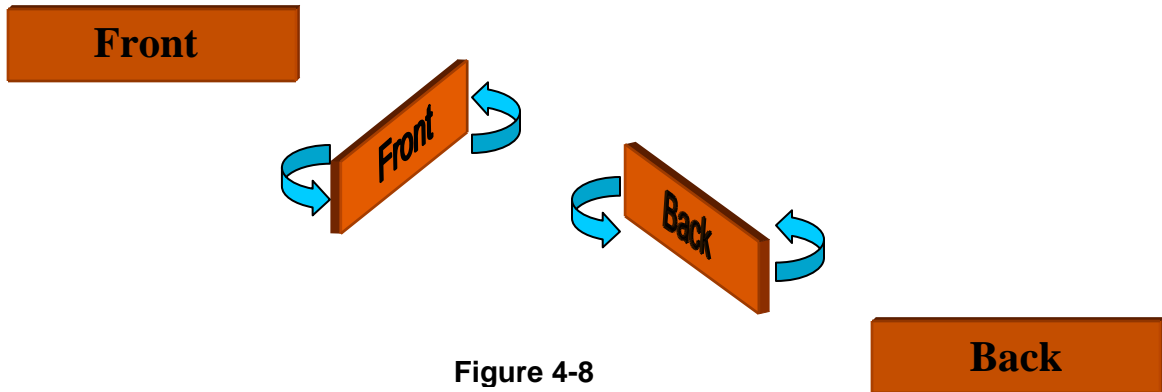

Figure 4-8
6. Remove the wicking foam from the other end of the oil tank, rotate it end for end, and reinstall it in the opposite end of the tank. The result will be that the front face becomes the back face with the top remaining at the top, as shown in Figure 4-8. The end wicking foams are notched along their outside edges to prevent drips. When rotating these wicking foams, they must be reinstalled at the opposite end of the oil tank otherwise a gap would exist between the adjacent foams.